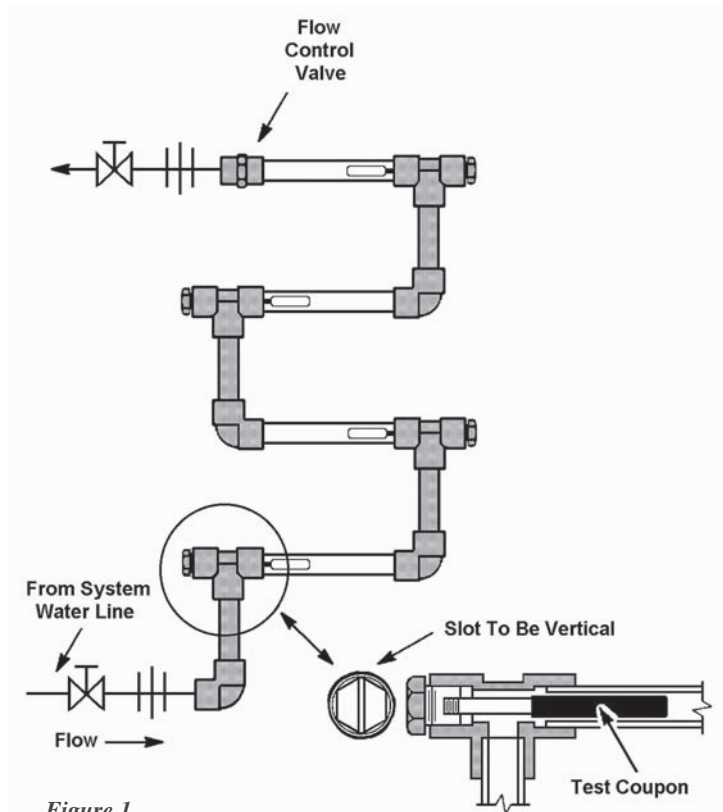
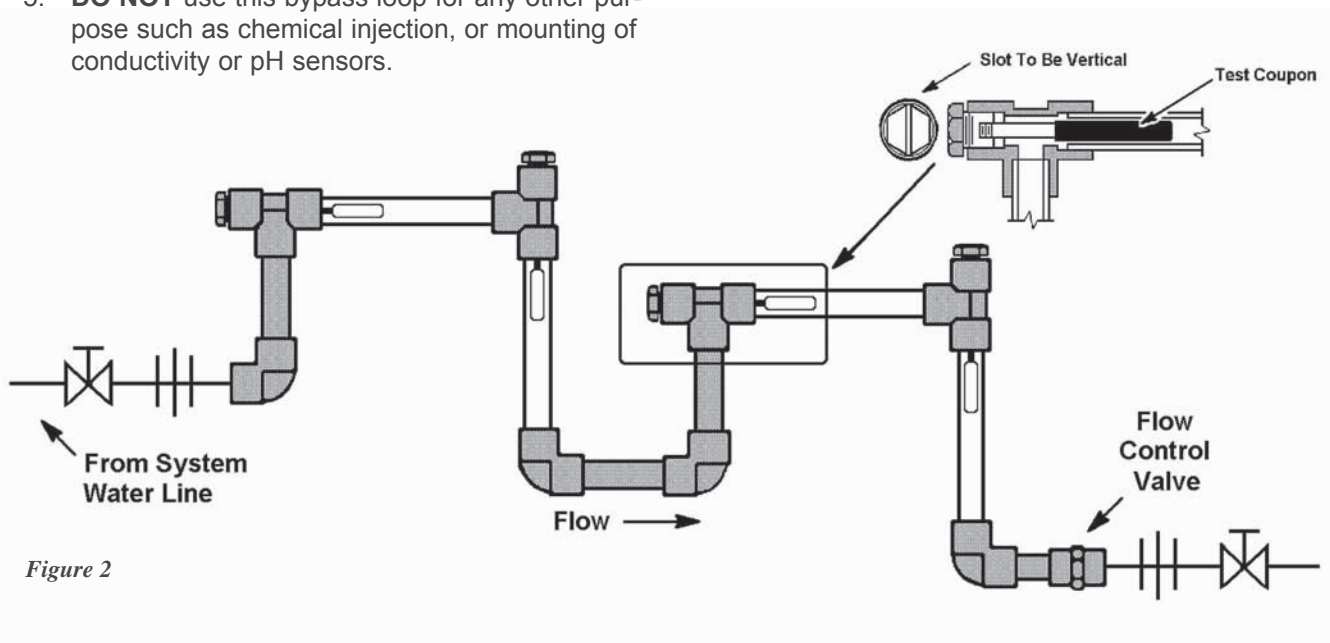

Figure 1
Figure 2
water, process water systems, etc. The PVC Rack is constructed of 1" threaded Sched. 80 PVC pipe. It is supplied with four 1" PVC mounting plugs and an 8 gpm Dole™ flow control valve. Two designs are available. One is constructed of all gray, opaque PVC. The other features transparent pipe sections for viewing the test coupons in place. See Figures 1 & 2. To discourage algae growth in the transparent sections, opaque snap-on pipe covering is supplied with this corrosion rack.
1. The Corrosion Test Rack may be assembled for vertical mounting as shown in Figure 1, or a horizontal position, Figure 2. Items shown in single line schematic are not furnished.
6. The witness slot on the coupon mounting plug should be parallel with the flat surface of the corrosion test coupon. Install the mounting plug in the tee and align the witness slot (and coupon) in the **VERTICAL** position as shown in Figure 1.